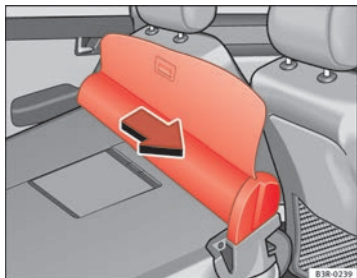

Fig. 122 Removing luggage compartment cover / net partition
- Pull the net partition in the direction indicated ⇒ fig. 122 and lift it out of the retaining rails.